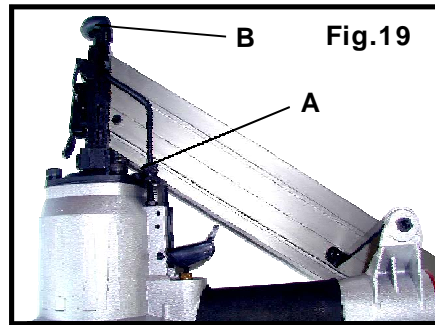

Fig.19
The depth to which a fastener is driven is adjusted by the adjusting nut on the safe bracket (A) Fig, 19. The depth of drive is adjusted to a maximum setting by the factory. Rotate adjusting nut (A) Fig. 19 to desired position, fire another fastener and check depth. REPEAT AS NECESSARY TO ACHIEVE DESIRED RESULTS. The amount of air pressure required will vary depending on the size of the setting to determine the lowest setting that will consistently perform the job at hand. Air pressure in excess of that required can cause premature wear and/or damage to the tool.
A rubble nose cushion (B)Fig. 19, is provided to reduce marring of the work surface. The rubber cushion can be pulled off to provide increased depth-of-drive.